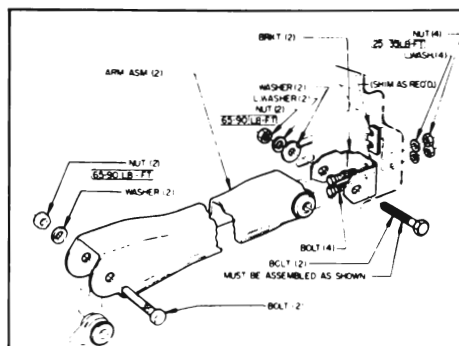

Figure 6-113—Shimming Upper Control Arm for Pinion Angle Adjustment
However, the rear universal joint angle can vary and must be adjusted. It is adjusted by rotating the rear axle housing; this is accomplished by lengthening or shortening the upper control arms by means of shimming at the frame bracket ends. See Figure 6-113.
2. Loosen nuts and bolts retaining upper control arm brackets to frame. See Figure 6-113.
4. Install shims as required between brackets and frame. See Figure 6-113.